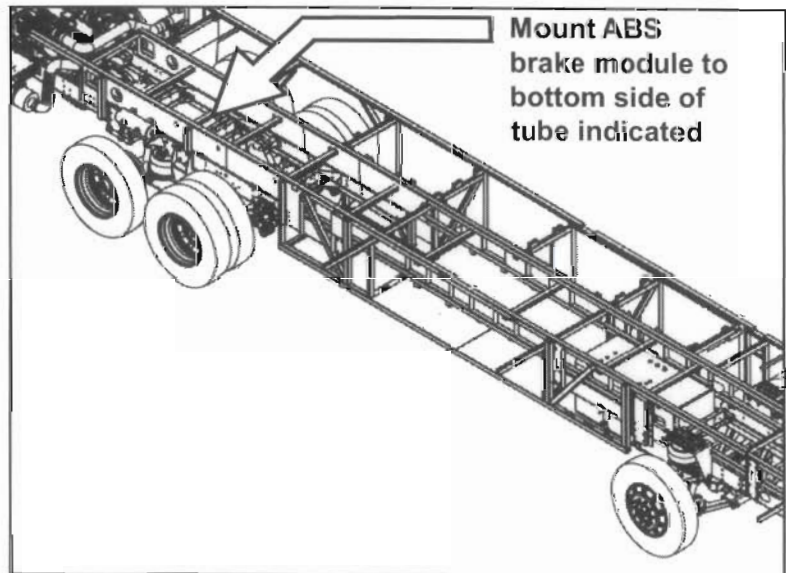

**Figure 2**
5. Loosen the two screws attaching the cover to the ABS braking module using a 10 mm socket. The ABS braking module attachment holes will be visible. See Figure 2.